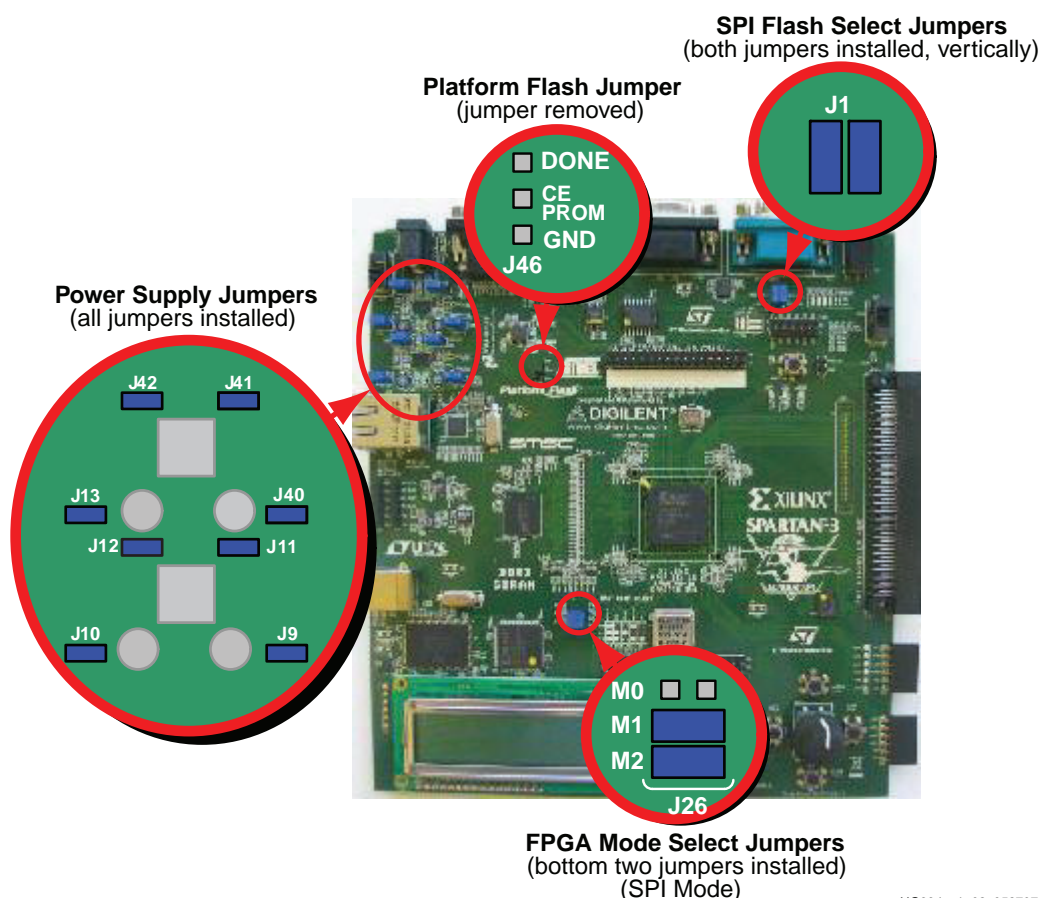

Figure 1-2: Default Jumper Settings for Starter Kit Board
1. Double-check the position of the board jumpers, as shown in Figure 1-2, page 14. These settings are required for the demonstration design to configure correctly.